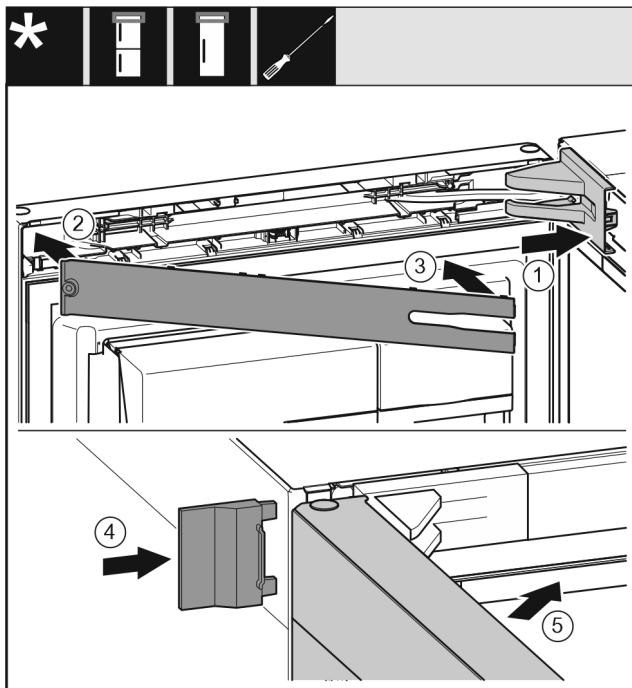

Fig. 57
- Put the swap bearing block cover Fig. 57 (1) on and engage, push apart carefully if required.
- Fit the trim Fig. 57 (2).
- Swivel in the cover Fig. 57 (3) and engage.
- Push the outer cover Fig. 57 (4) on.
- Close the upper door Fig. 57 (5).